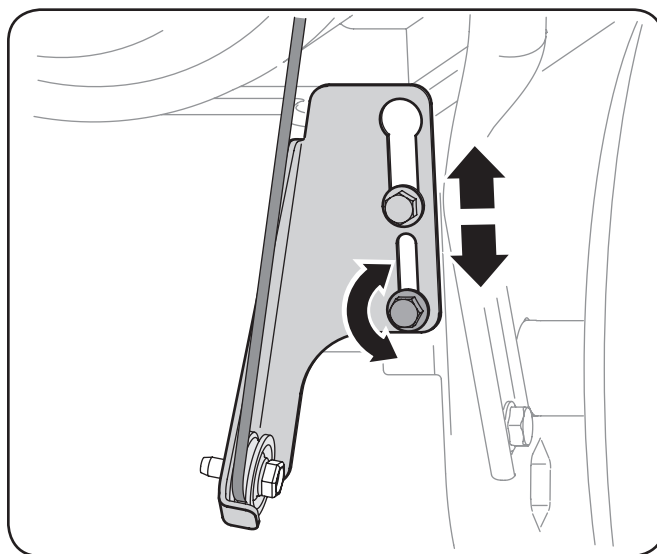

Figure 6-9
2. Loosen the lower hex screw on the drive cable bracket. See Figure 6-9.